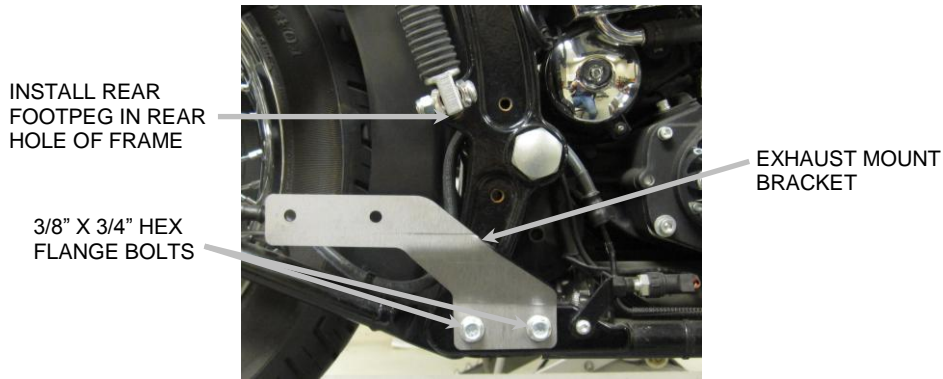

FIGURE 2
5. Remove the right side passenger foot peg from the clevis mount that is attached to the exhaust mount bracket. Remove the clevis mount from the exhaust mount bracket and then the stock exhaust mount bracket from the frame. Install the right side passenger foot peg using the 3/8" x 2-1/2" bolt and the supplied spacer into the rear most hole in the frame. See **FIGURE 2**. Tighten to factory specifications.
- Remove the plastic hole plugs from the two lower holes in the frame and install the supplied exhaust mount bracket using the supplied 3/8" x 3/4" hex flange bolts. Tighten the bolts to factory specifications. See **FIGURE 2**.